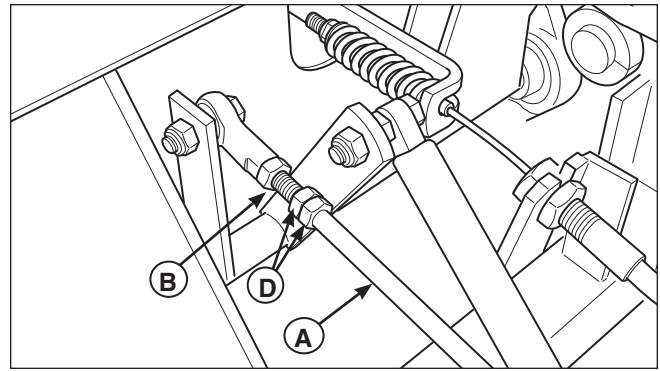

Figure 33. Neutral Adjustment (RH side shown)
2. The locking nuts (**D**, **Figure 33**) are to be used together to turn the rod. Loosen the jam nut that locks against the ball joint (**B**) and turn the linkage rod (**A**) to adjust. If the machine creeps forward, turn the rod CLOCKWISE (while standing at the rear of the machine, facing forward), if the machine creeps backward, turn the rod COUNTER-CLOCKWISE.